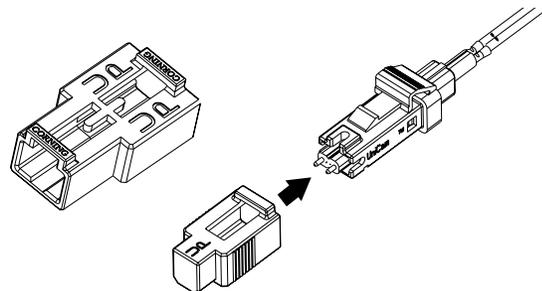

Figure 3-30
**3.7-10** If you are using the CTS system, remove the connector from the CTS coupler and replace the front dust cap (Figure 3-30).